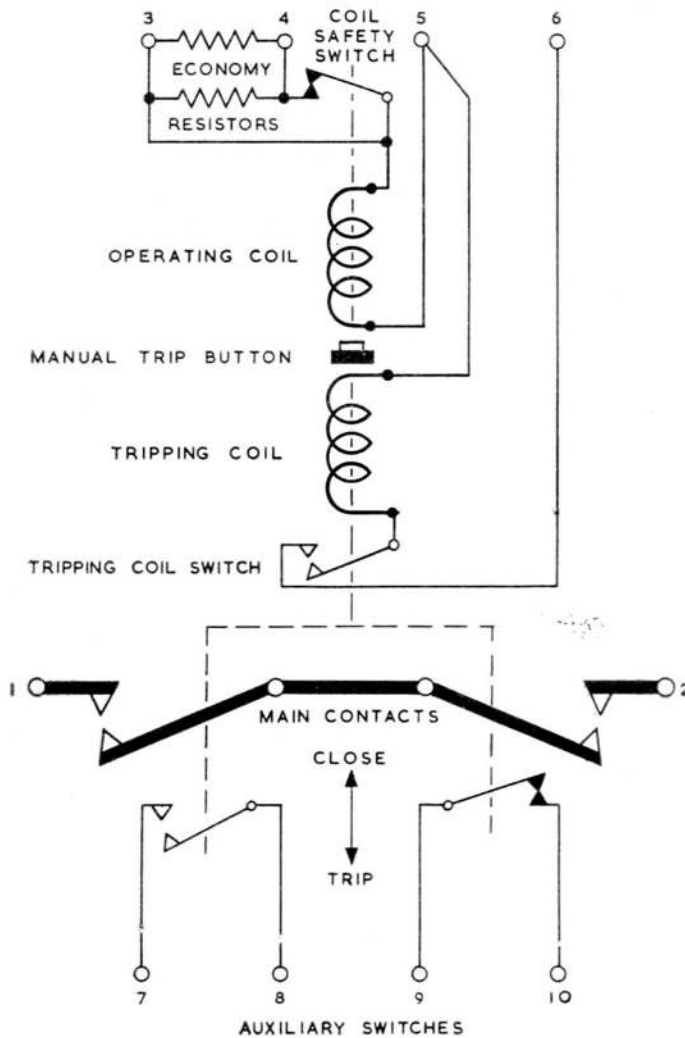

Fig. 3. Diagram of internal connections
6. Measure the resistance of the operating coil between the appropriate terminals on the four-way terminal block (Fig. 3), with the main contacts open. When corrected to a temperature of 20 deg. C., the coil resistance should be $3.7 \text{ ohm} \pm 5 \text{ per cent}$. With the switch latched in the "closed" position, measure the resistance of the tripping coil, and of the operating coil in circuit with its economy resistors, between the appropriate terminals. When corrected to 20 deg. C., the resistance of the tripping coil should be $36 \text{ ohm} \pm 5 \text{ per cent}$ and the resistance of the operating coil circuit should be between 51 ohm and 56.4 ohm.